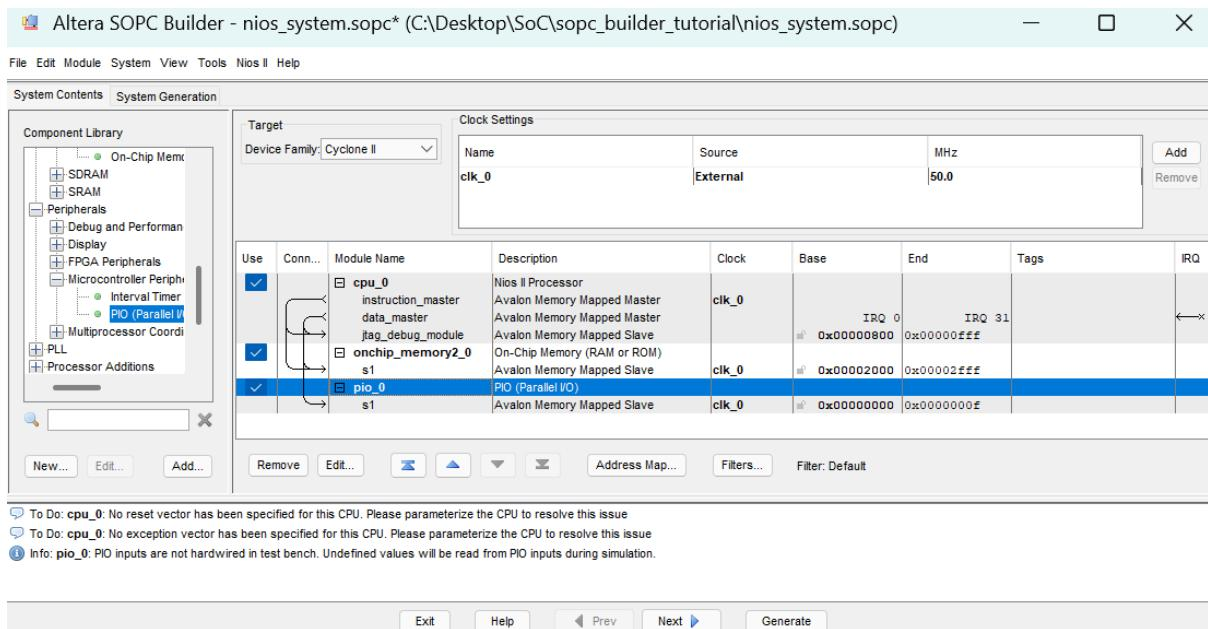

Figure 10. The parallel input interface is included on a DE-series board.
- Click Finish to return to the System Contents tab (Figure 10).